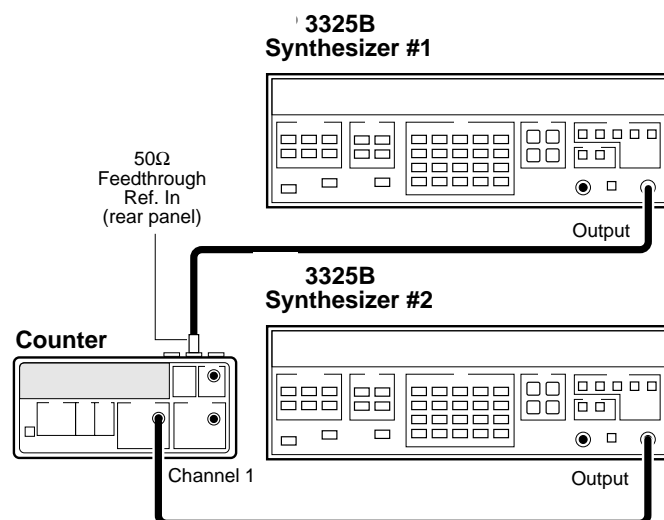

Figure 1-4. External Timebase Test Setup
- 1 Connect the equipment as shown in Figure 1-4.
- 1 Connect the equipment as shown in Figure 1-4.**